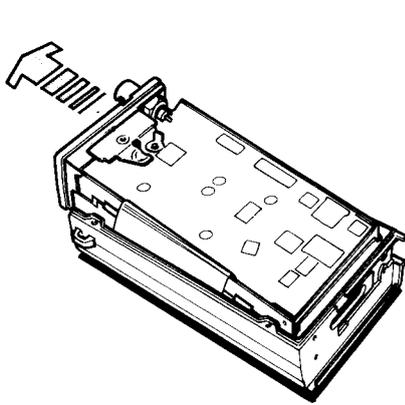

Fig. 5-1-3
- Slide the inner frame upward slightly as shown in Fig. 5-1-3, and lift the frame away from the FRONT CASE. Be sure not to damage the flexible cable while removing the FRONT CASE.